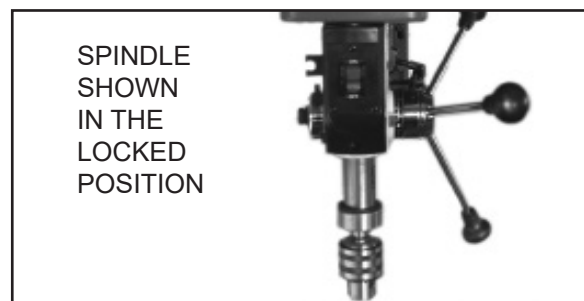

Figure 29
2. Lower the spindle to the desired depth. Fig. 29.